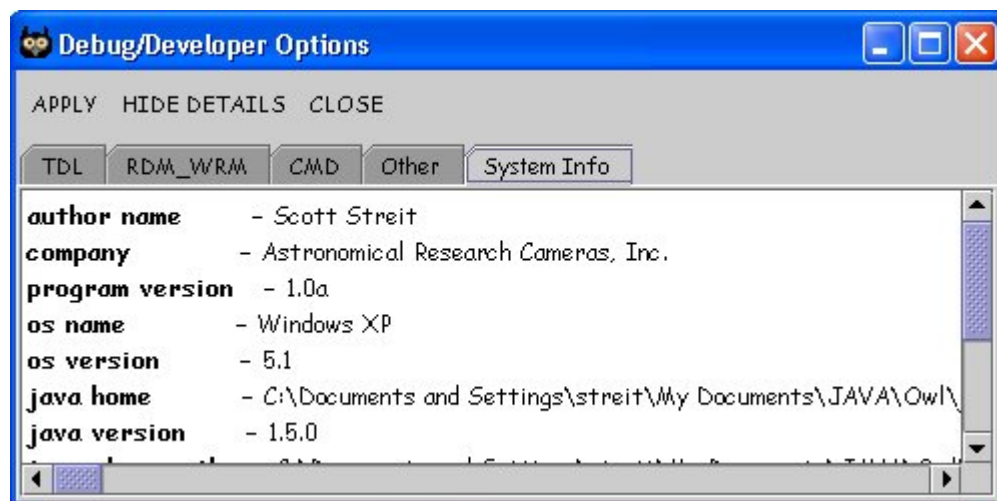

Figure 17. The system info tab in the debug window.
**Other** – This tab contains info on the application and the Java Runtime Environment. See figure 17.